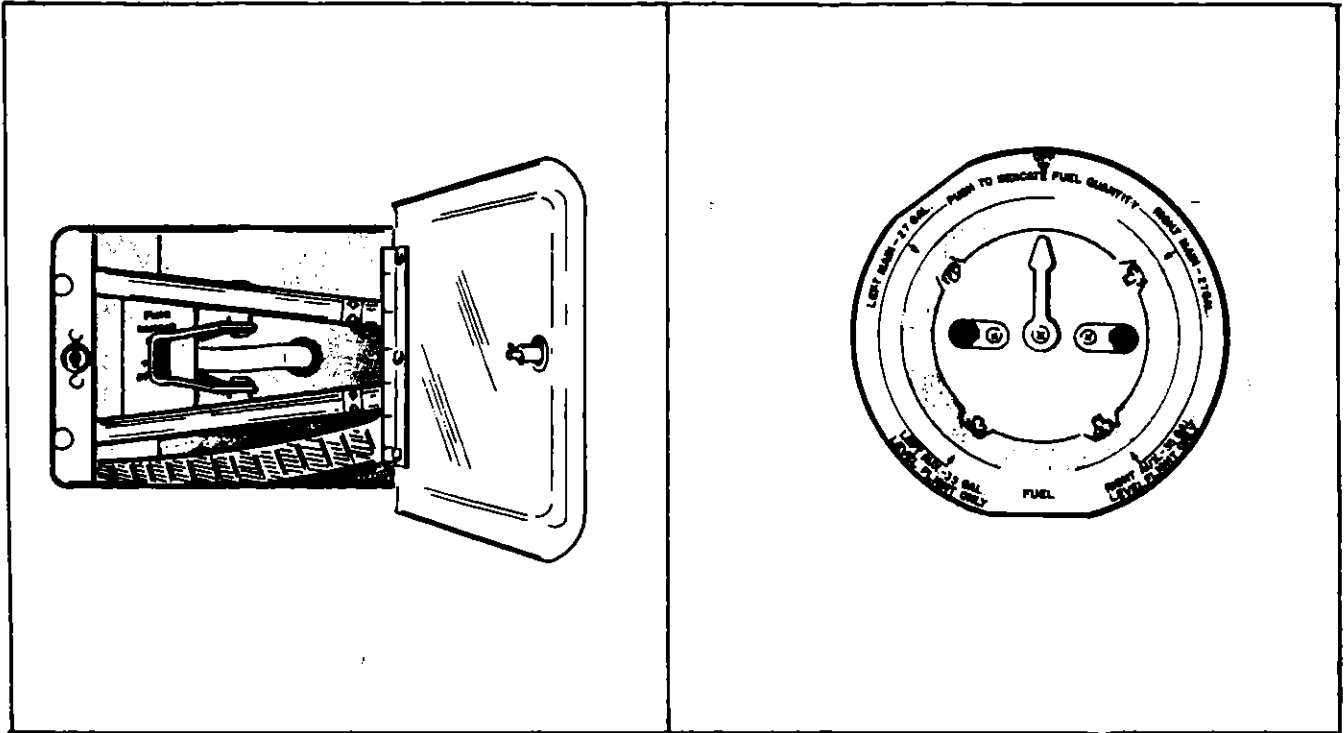

FIGURE 2-16. FUEL STRAINER AND DRAIN
a. On PA-24-180 and PA-24-250 aircraft bearing Serial Nos. 24-1 to 24-2298 inclusive, the fuel strainer, equipped with an easy drain valve is mounted under the right forward section of the fuselage. The fuel strainer drain (Figure 2-16) on PA-24-180 and PA-24-250 aircraft bearing Serial Nos. 24-2299 and up and PA-24-260 aircraft is located in the cabin floor just aft of the fuel selector valve and is drained by opening the access door and moving the easy drain valve handle to the aft position. Draining is accomplished within the cockpit. A transparent plastic tube is attached to the drain valve and extends through a hole in the bottom of the fuselage. Flow of the fuel is observed by means of the transparent tube and should cease as observed through tube when the handle is released. On the PA-24-400 (Figure 2-17), the fuel is drained from the cockpit by lifting up the red knob located in the center of the fuel selector. The fuel strainer should be drained regularly to check for water or dirt accumulations.